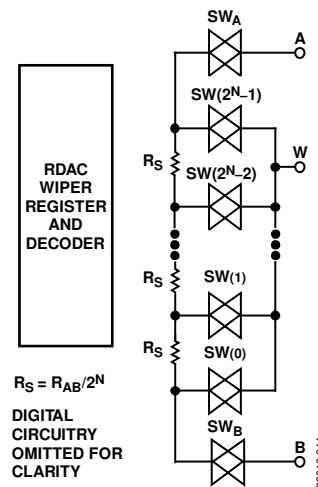

Figure 45. Equivalent RDAC Structure
The patent-pending RDAC contains multiple strings of equal resistor segments with an array of analog switches that acts as the wiper connection. The number of positions is the resolution of the device. The AD5235 has 1024 connection points, allowing it to provide better than 0.1% setability resolution. Figure 45 shows an equivalent structure of the connections among the three terminals of the RDAC. The SW_A and SW_B are always on, while the switches, SW(0) to SW(2^N - 1), are on one at a time, depending on the resistance position decoded from the data bits. Because the switch is not ideal, there is a 50 Ω wiper resistance, R_W. Wiper resistance is a function of supply voltage and temperature. The lower the supply voltage or the higher the temperature, the higher the resulting wiper resistance. Users should be aware of the wiper resistance dynamics, if accurate prediction of the output resistance is needed.
The 10-bit data-word in the RDAC latch is decoded to select one of the 1024 possible settings. The following description provides the calculation of resistance, R_{WB} , at different codes of a 25 k Ω part. The first connection of the wiper starts at Terminal B for Data 0x000. $R_{WB}(0)$ is 30 Ω because of the wiper resistance, and it is independent of the nominal resistance. The second connection is the first tap point where $R_{WB}(1)$ becomes 24.4 Ω + 30 Ω = 54.4 Ω for Data 0x001. The third connection is the next tap point representing $R_{WB}(2)$ = 48.8 Ω + 30 Ω = 78.8 Ω for Data 0x002, and so on. Each LSB data value increase moves the wiper up the resistor ladder until the last tap point is reached at $R_{WB}(1023)$ = 25006 Ω . See Figure 45 for a simplified diagram of the equivalent RDAC circuit. When R_{WB} is used, Terminal A can be left floating or tied to the wiper.